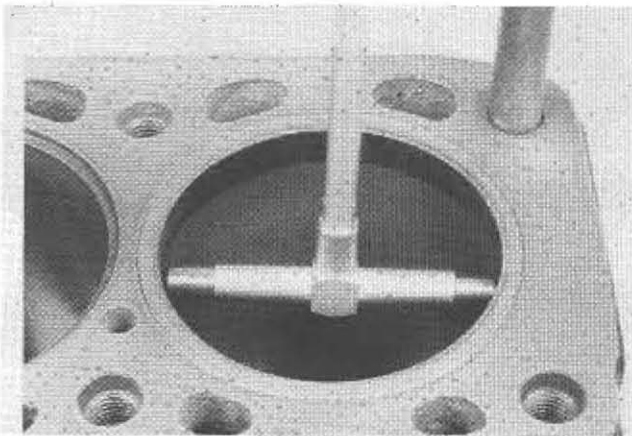

Fig. 2-9 Cylinder Liner Measurement
29. Check cylinder liners for wear, out-of-round, pooketing, or any other problems that would require replacement. The inside diameter of the liner should not be greater than 2.8398 in. (72.13 mm) or .0024 in. (0.06 mm) out-of-round (Fig. 2-9).